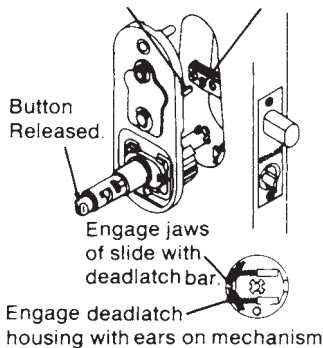

Figure 13.63 Install mechanism.
10. Install the inside mechanism with the knob button released and the crank bar in the vertical position. Insert the end of the crank bar in the slot on the deadbolt (Fig. 13.63). Engage the jaws of the slide with the deadlatch bar, and engage the deadlatch housing with the ears on the inside mechanism. This sounds more confusing than it is; see the insert for Fig. 13.63.